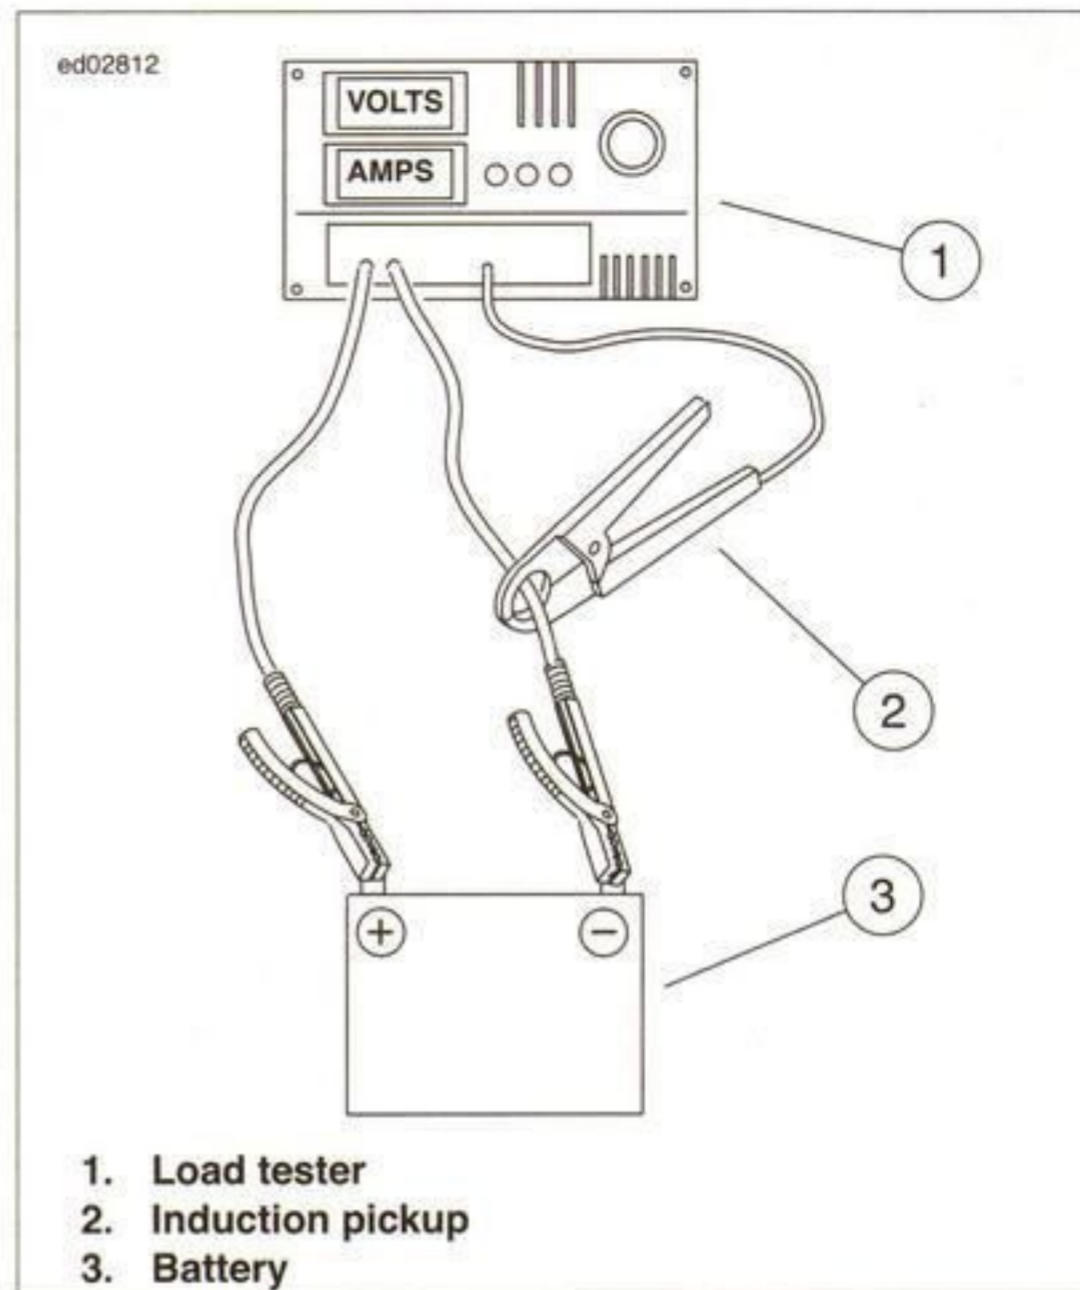

Figure 3-20. Load Test Battery
4. See Figure 3-20. Connect tester leads to battery posts and place induction pickup over negative (black) cable.